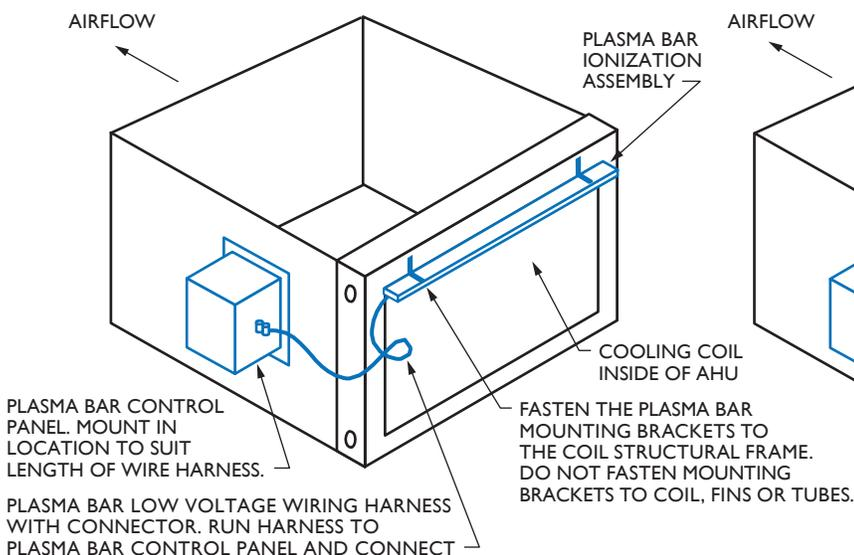
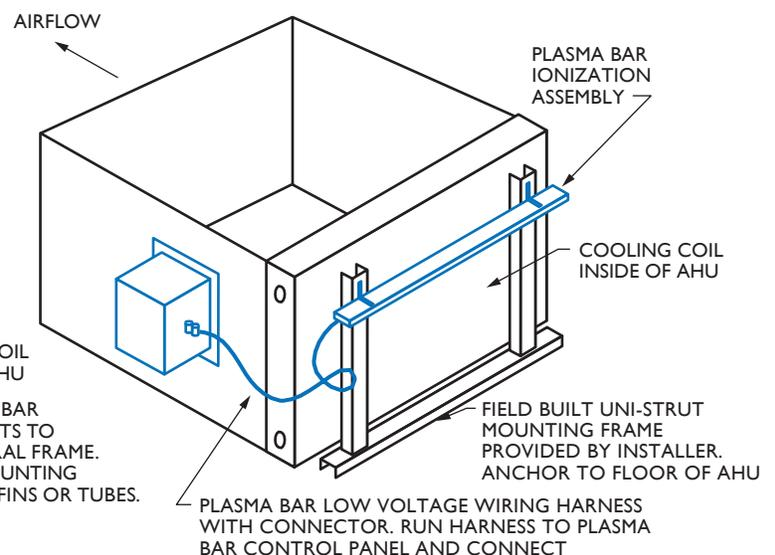

FIGURE 1a
FIGURE 1b
2. The preferred mounting location for the Plasma BAR is on the entering face of the cooling coil inside of an Air Handling Unit (see Figure 1a). The mounting brackets provided shall be secured to the structural frame of the coil without damaging the coil's fins or tubes. Vertical uni-strut provided by the installer may be utilized to aid in mounting of the Plasma BAR if necessary. (See Figure 1b). The BAR can also be mounted downstream of the cooling coil as long as moisture carryover on the BAR is avoided.
3. Once the Plasma BAR is securely fastened inside the Air Handling Unit, mount the Plasma BAR Control Panel at a nearby location to allow connection of the Plasma BAR wiring harness to the control panel (Figure 1a or Figure 1b).